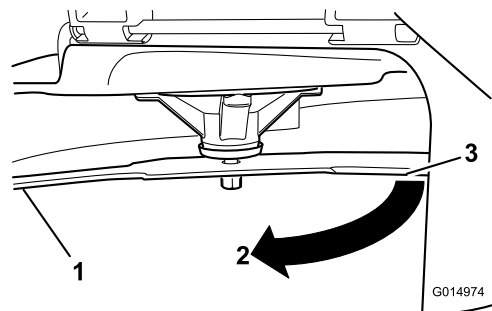

Figure 68
3. Measured distance between blade and the surface (A)
4. Rotate the same blade 180 degrees so that the opposing cutting edge is now in the same position (Figure 68).